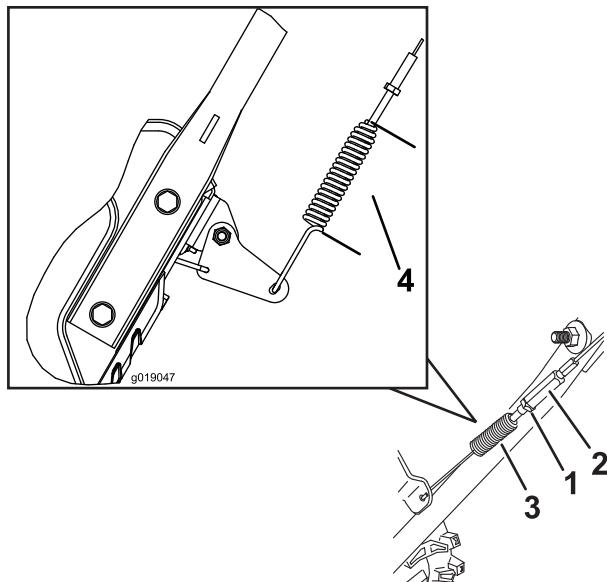

Figure 41
3. Loosen or tighten the turnbuckle to adjust the spring length to 2.75 inches (7 cm) (Figure 41)
4. Tighten the jam nut (Figure 41), ensuring there is slight tension on the cable.